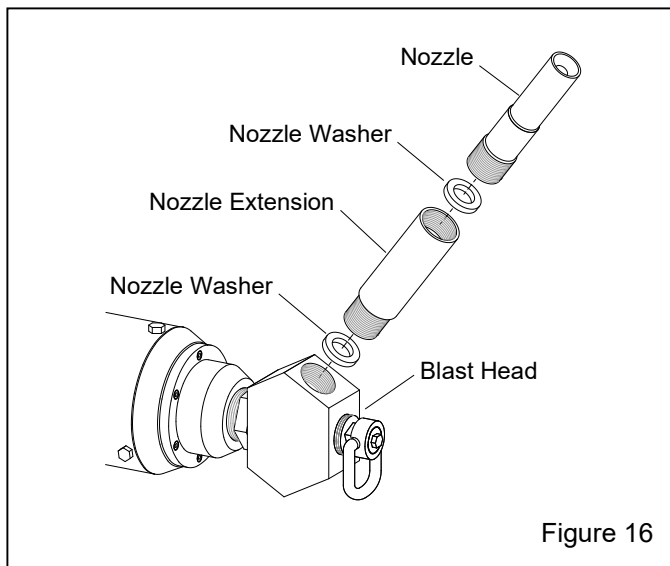

Figure 16
**7.2 8-Hour Inspection – Figure 16**